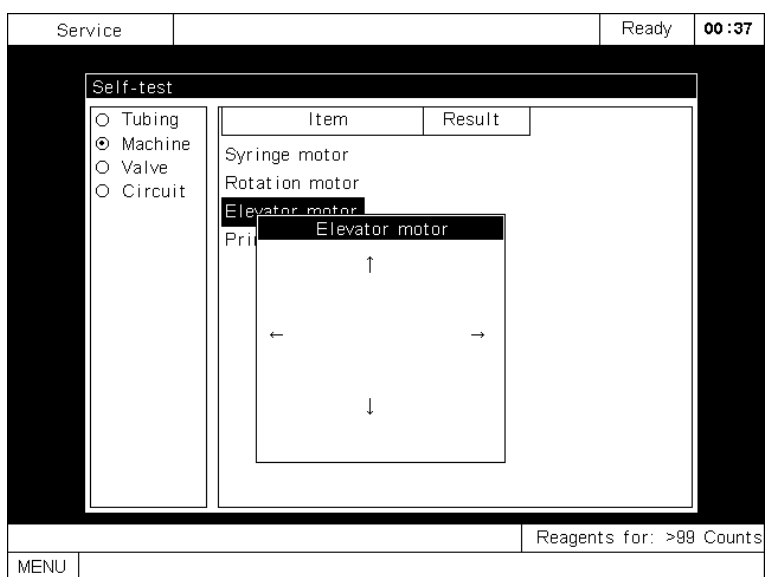

Figure 8-31 Elevator motor screen
4. Press [ENTER] and an elevator motor screen will pop up, as Figure 8-31 shows.